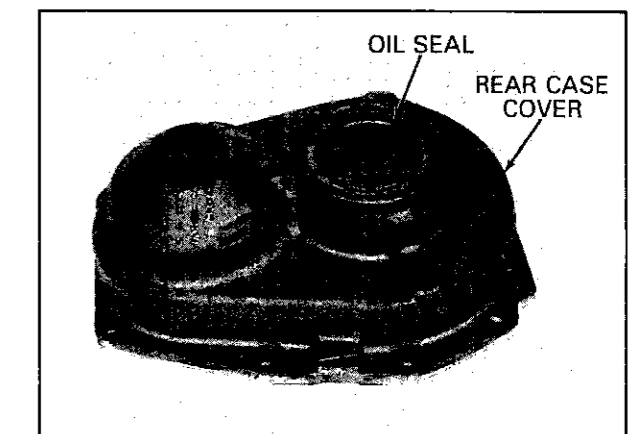

FIG. 39 REAR CASE COVER AND OIL SEAL
43. Press a new seal into the case rear cover. This seal should be pressed to the bottom of the seal bore in the case (Fig. 39).